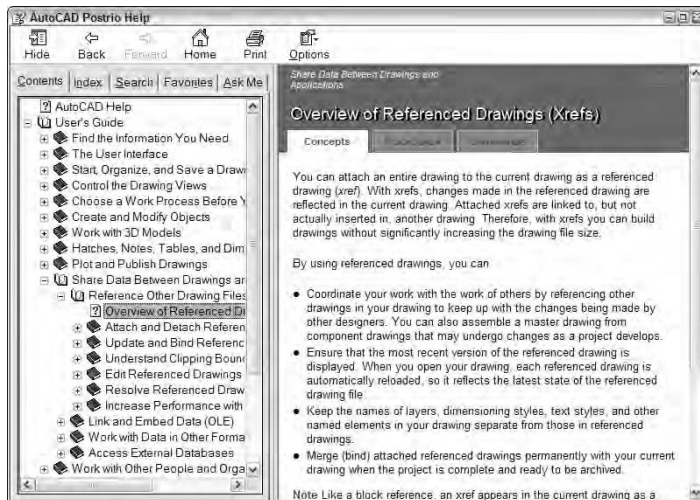

Figure 2-14:
- **Help:** The main AutoCAD 2007 online help system, shown in Figure 2-14, uses the same help engine as the Microsoft Office programs, Internet Explorer, and other modern Windows applications. As with these other programs, AutoCAD's help is context-sensitive; for example, if you start the LINE command and just don't know what to do next, Help will . . . er, help. Click the Contents tab to browse through the various online reference manuals, the Index tab to look up commands and concepts, and